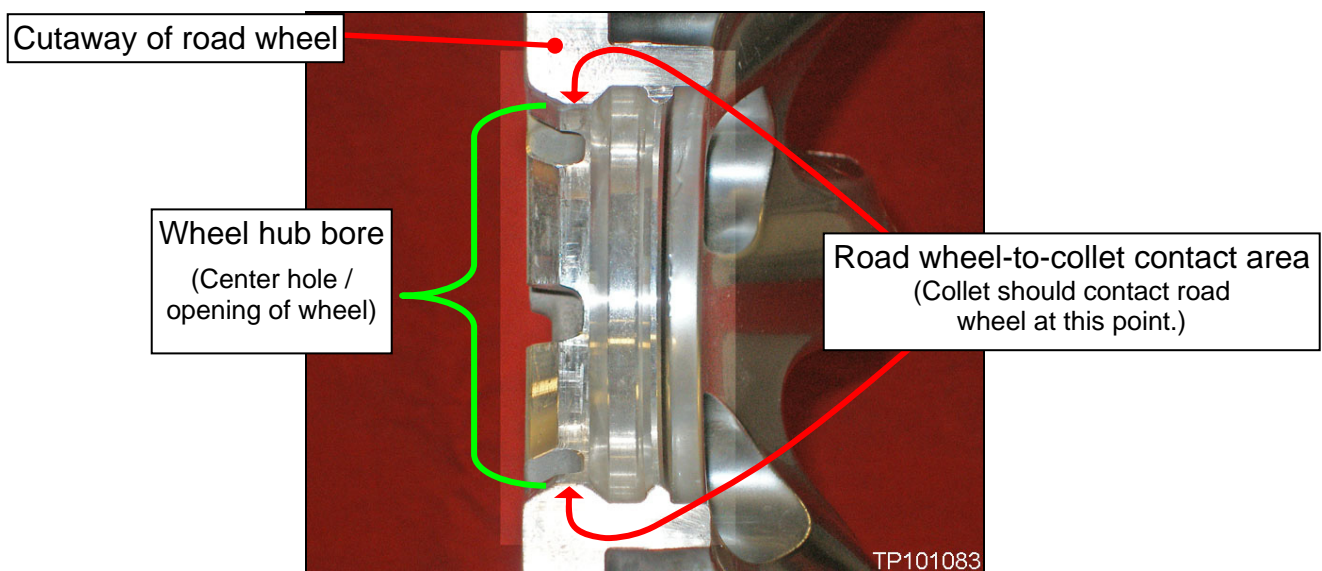

Figure 2
For proper centering, the road wheel-to-collet contact area should be at the point shown in Figure 2.
- For non-Hunter equipment, select a size and shape collet that will contact the road wheel at the point shown in Figure 2.